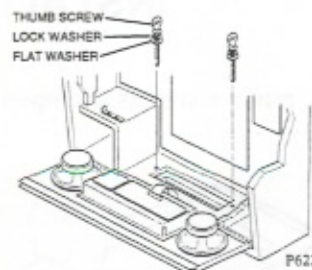

FIGURE 8: INSTALLING BACKBOX LOCKING HARDWARE
- 13) Attach lock washer and flat washer to thumb screw and fasten to cabinet tee nuts (see figure 8). Tighten firmly.